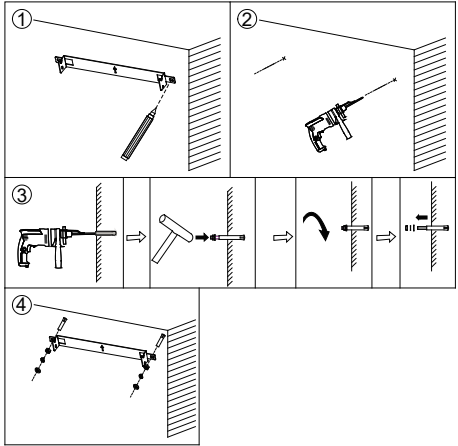

Fig 2.2 Wall mounting
- Wall mounting: Select the installation position of the wall bracket according to Figure 2.2, mark the installation holes, drill holes, install the wall with self-provided expansion bolts, fix to the wall, turn the nut to the end and withdraw, fix the hanger on the expansion bolts, and tighten it with M10 nuts.